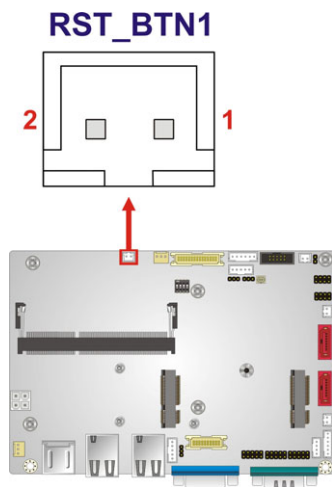

Figure 3-16: Reset Button Connector Location
- CN Location:** See **Figure 3-16**